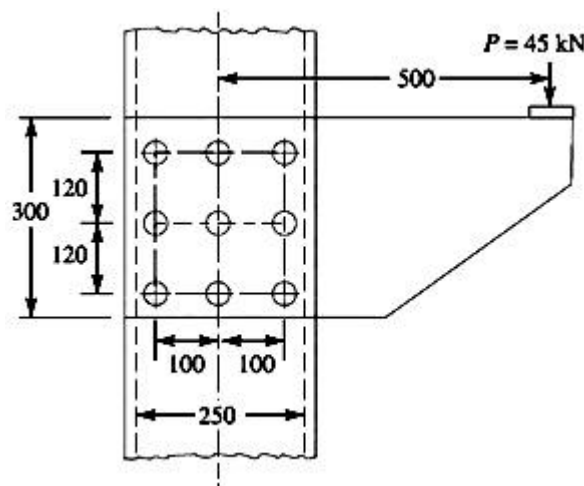

Figure 2
4. The bracket as shown in Figure 2 is to carry a load of 45 kN. Determine the size of the rivet if the shear stress is not to exceed 40 MPa. (12M)